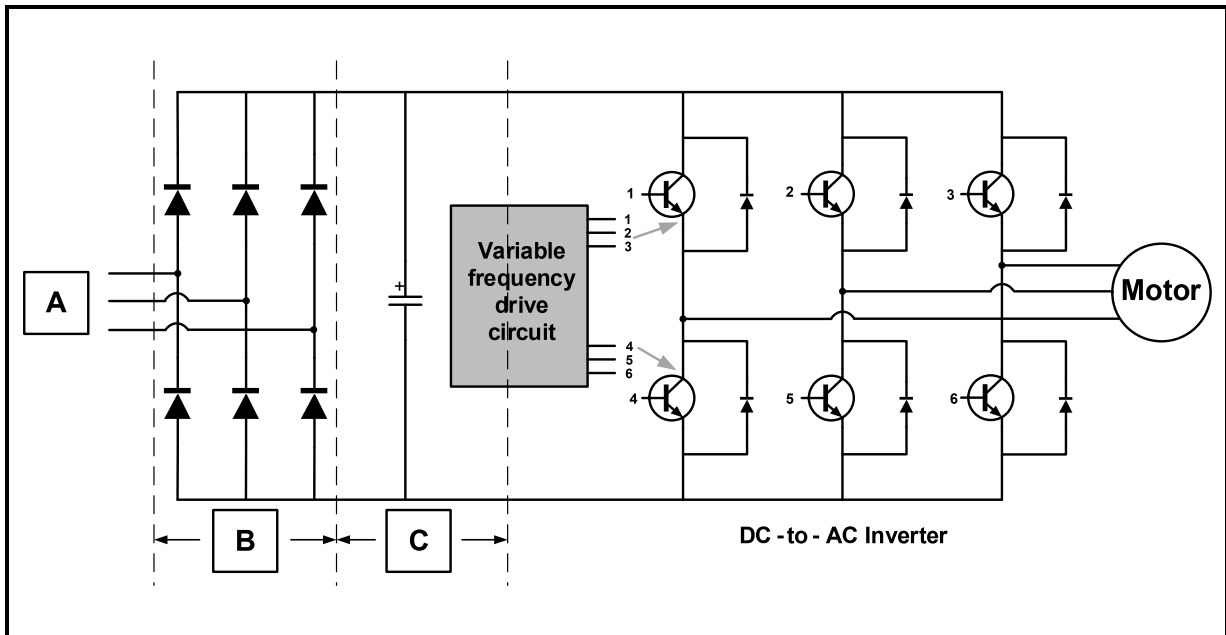

FIGURE 7.5: VARIABLE FREQUENCY DRIVE (VFD) CIRCUIT
- 7.5 FIGURE 7.5 below shows a variable frequency drive (VFD) circuit. Study the circuit and answer the questions that follow.